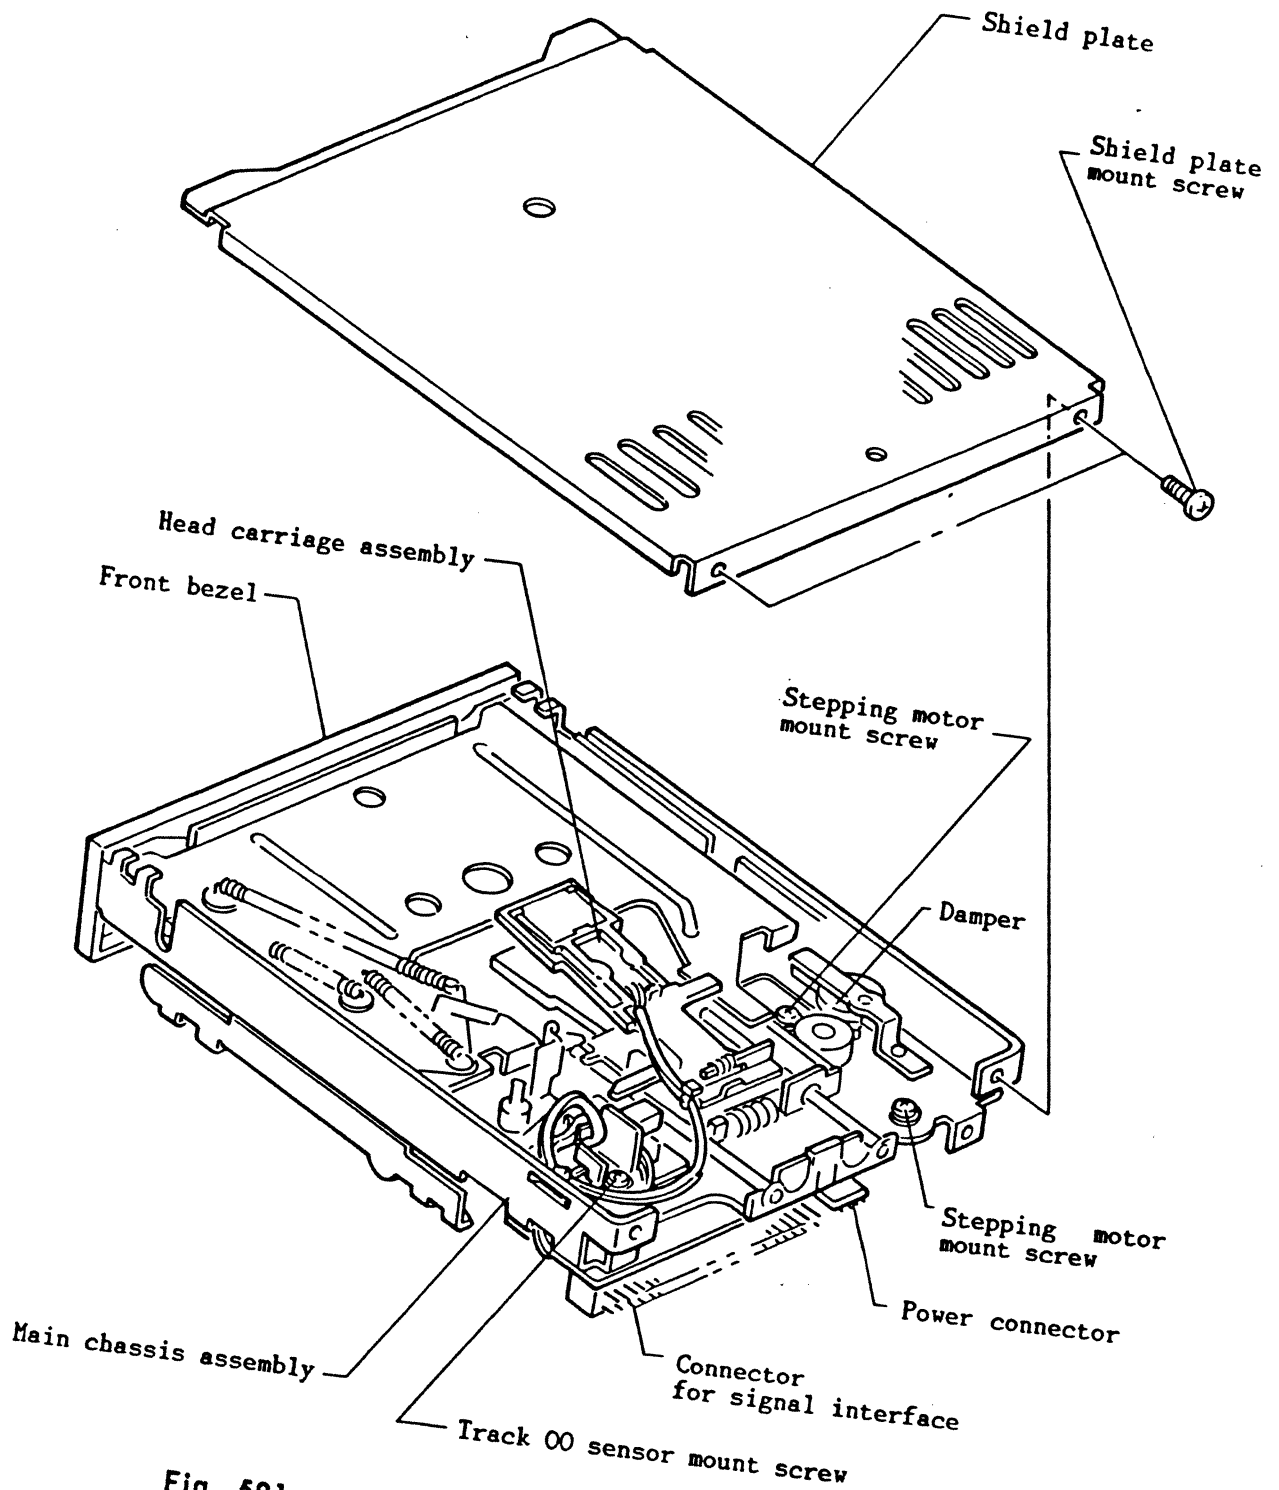
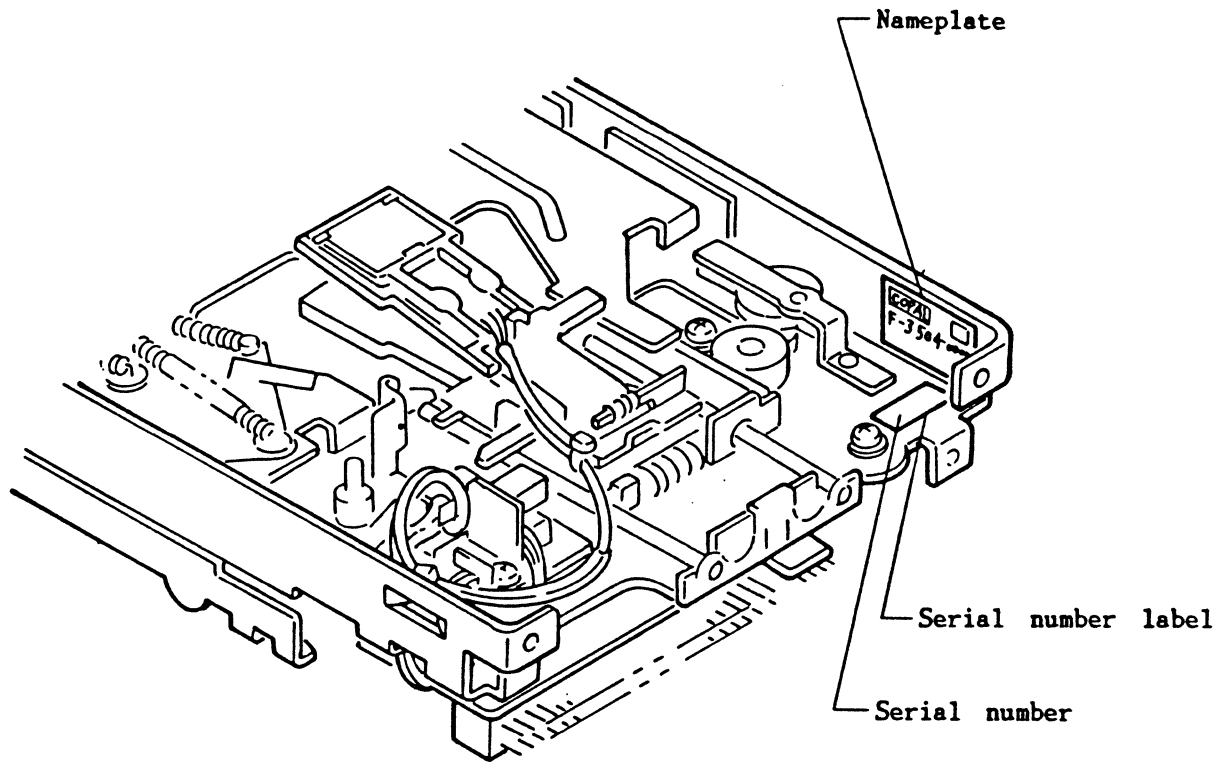

Fig. 501 External Appearance Drawing (1)
Fig. 504 External Appearance Drawing (4)
The F-3503 and F-3504 includes the following main components. (Refer to Fig.501~Fig.504) For a detailed parts breakdown, see items 5-2 and 5-3.